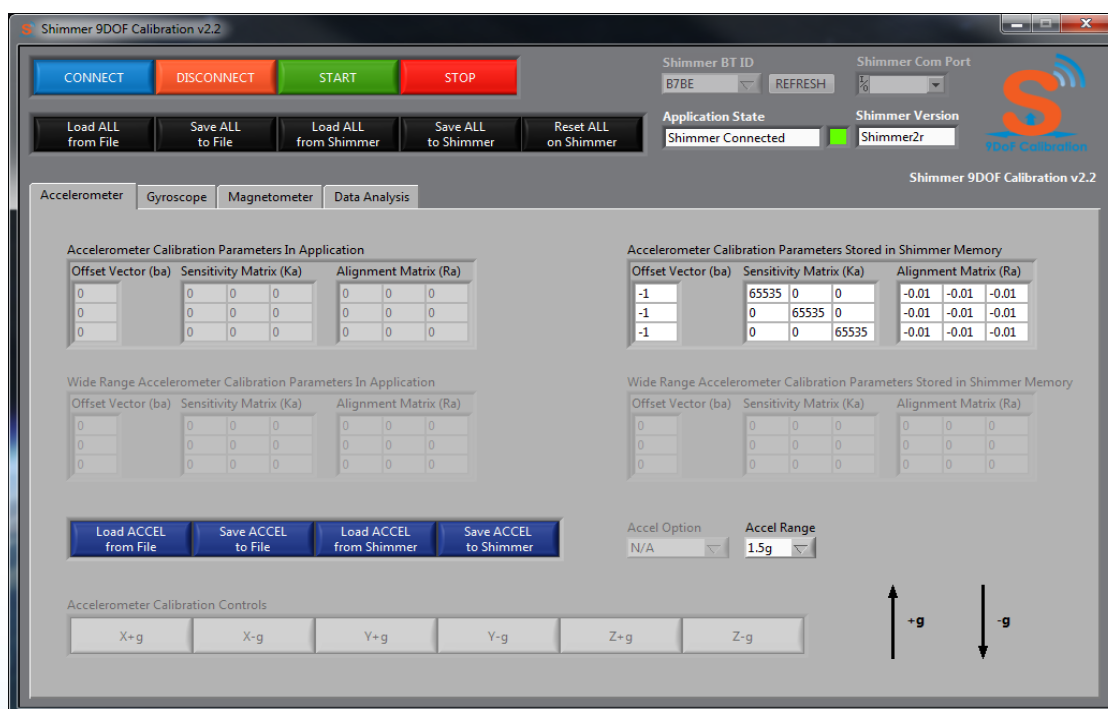

Figure 7-1 Shimmer accelerometer calibration GUI – Connected
- On a successful connection the accelerometer, gyroscope and magnetometer calibration parameters currently stored on the Shimmer are loaded into the application and will appear in the display labelled *(Sensor Name) Calibration Parameters Stored in Shimmer Memory* on each sensor tab. Figure 7-1 shows the GUI once a successful connection is made with the Shimmer with the appropriate values displayed.